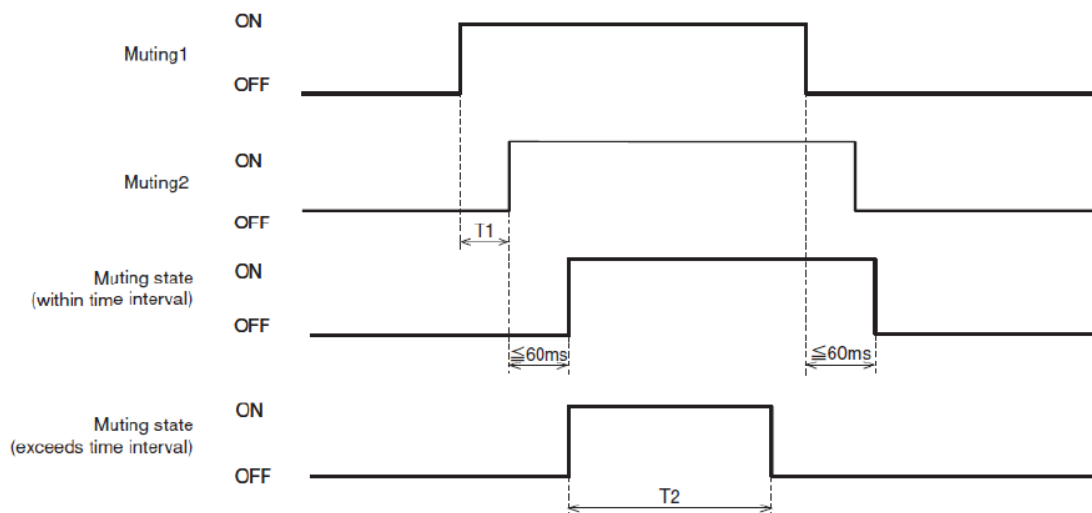

Figure 4-7 Muting sequence
- When the predefined (preset) maximum muting time T_2 exceeds (1 minute and above) (Figure 4-7).
Figure 4-7 shows the muting sequence.